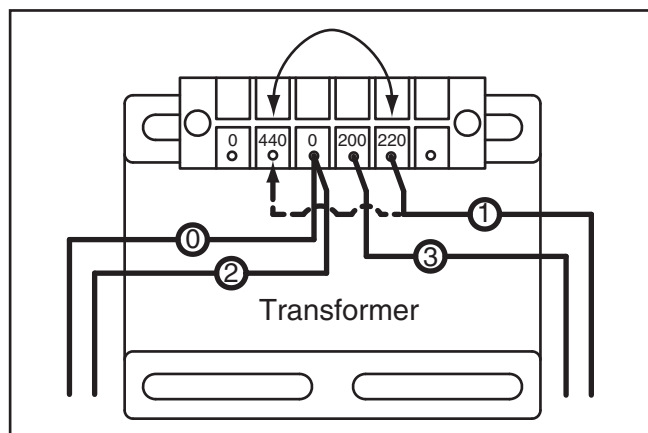

Figure 4. 440V transformer connection.
3. On transformer, remove wire connected to the far right 220V terminal, and re-connect it to 440V terminal, as shown in **Figure 4**.